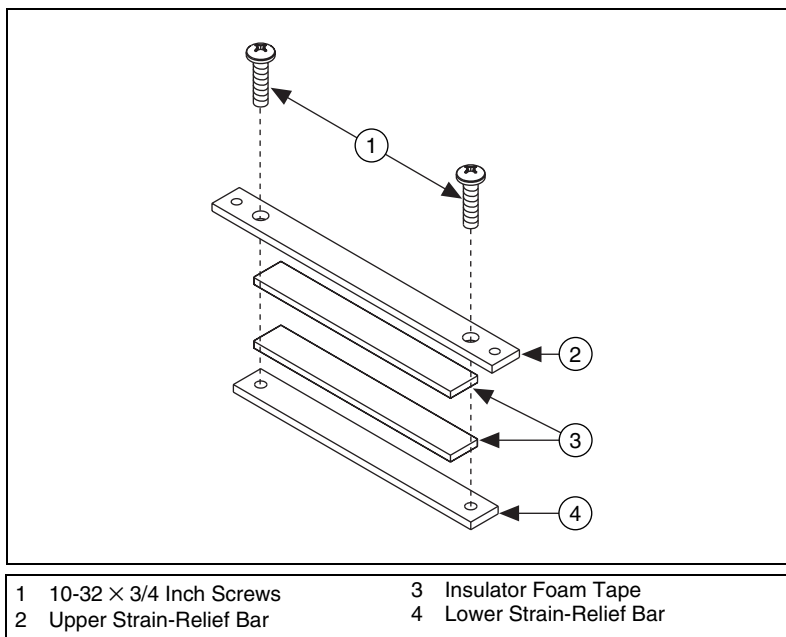

Figure 1. Strain-Relief Parts Locator Diagram
1. Adhere insulator foam tape to the upper and lower strain-relief bars as shown in Figure 1.